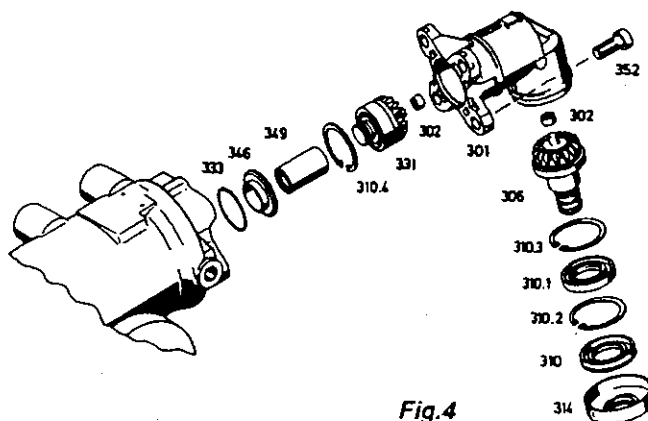

Fig.4
Unscrew hexagon screw (352) and remove complete bevel box (see Fig.4).
Remove protecting cap (314) and draw off shaft seal (310) with tool [33] (see Fig.4).
Unspring retaining ring (310.3) and remove any burr produced (Fig.4).